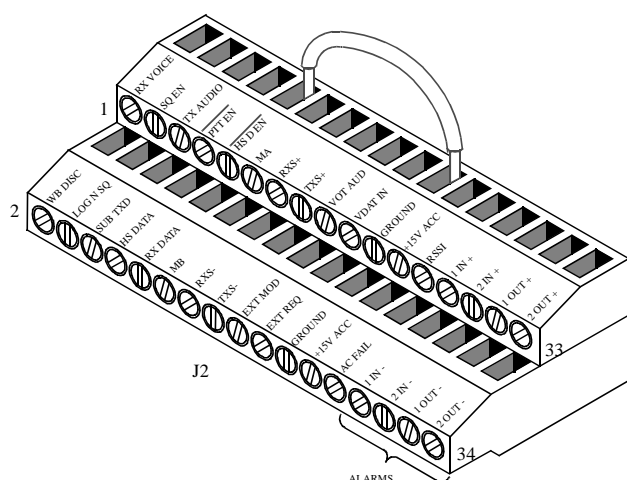

Figure 7-10 J2 - HIGH SPEED DATA JUMPER
1. Connect a shorting wire from J2, pin 9 to J2, pin 21 (see Figure 7-10).